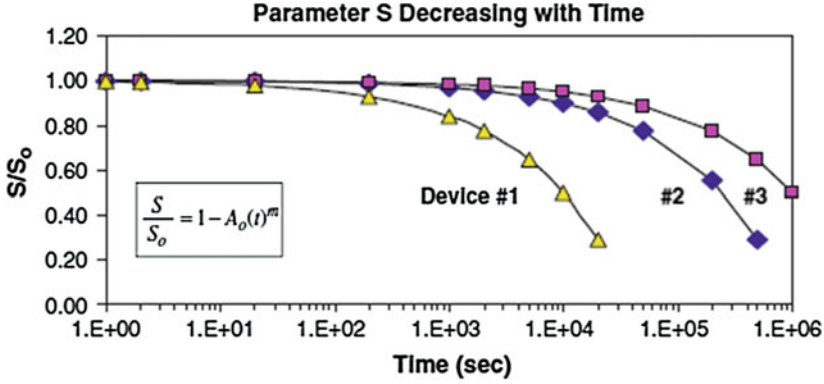

Fig. 1 Critical material/device parameter S is observed to reduce with time
Shown in Fig. 1 is the observed time dependence of the degradation for a critical device parameter S for three devices.³ Reduction in a critically important parameter S can be described by:
Using Eq. (4), a logarithmic plot for the three devices shown in Fig. 1 is now re-plotted in Fig. 2. Note that the unknown parameters in Eq. (3) can now be easily extracted from such plots.